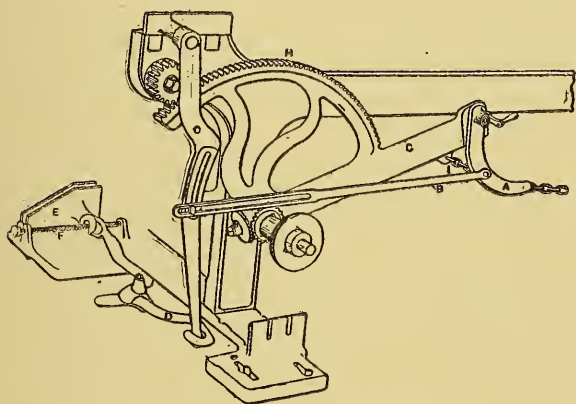

Fig. 22.—Self-Acting Nosing Motion.
**Self-acting Nosing Motion.**—This mule is fitted with a patent self-acting nosing motion (Fig. 22) which we believe is the only one not dependent upon a toothed ratchet wheel, which hitherto has been located between the arm, A, and the shaper, F, shown in the illustration. This improved motion being worked direct from the shaper, F, is considered sufficient to operate, thread by thread, in exact proportions to the cop as it is being built. The loose arm, A, is affixed to the quadrant arm, G, and, upon the side of the head-stock frame, is attached a pendant lever, C. These parts are all connected by B, which can be increased or diminished in its length as required. At the foot of the frame is the hooked lever, D, with the fulcrum in the centre, the hooked end encircling the lower end of the pendant lever, C, and the other end of D overlapping the shaper screw, F. The shaper plate, E, in its inward motion, pushes D before it; and the lever, C, being forced forwards, also moves the connector rod, B, and brings down the arm, A, to establish a gradually increasing drag on the quadrant chain, I—the spindles are